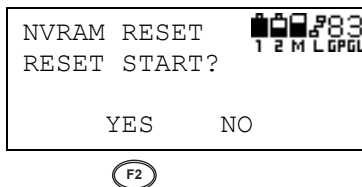

Figure 3-151. Select Yes and Press F2
2. On the NVRAM Reset screen, press **F2** to start begin resetting the NVRAM (Figure 3-151).